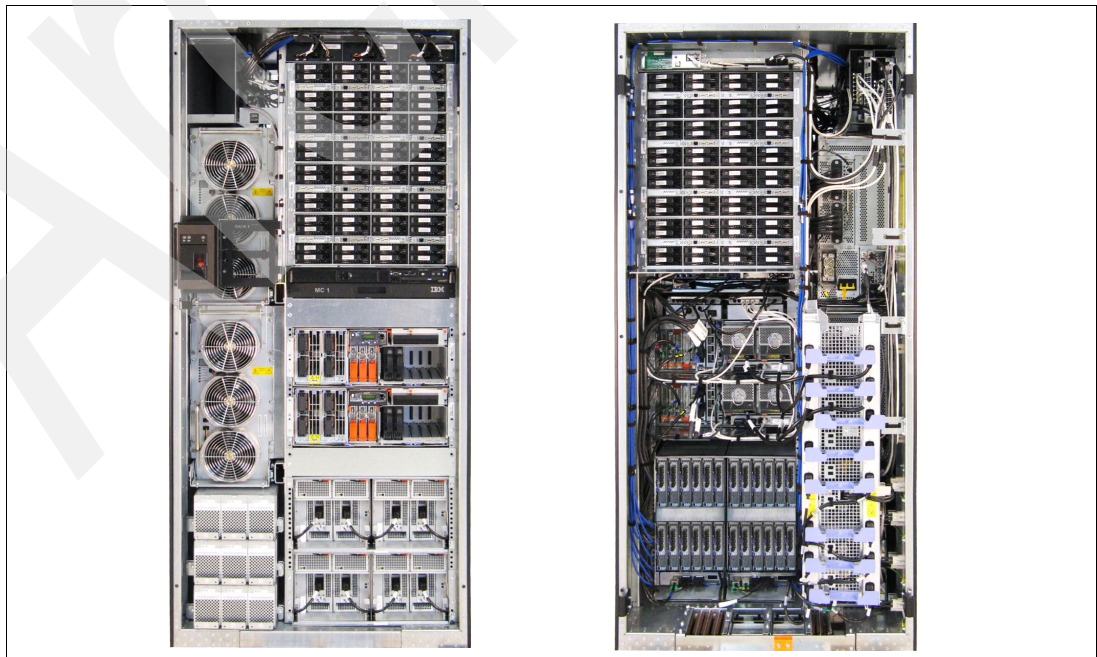

Figure 2-1 DS8700 base frame with covers removed: Front and rear
The DS8700 Model 941, shown in Figure 2-1, has the following features:
- ▶ The DS8700 Model 941 can connect up to four expansion frames (Model 94E/92E). Figure 2-1 displays a front view of a DS8700 Model 941 and 94E with the covers off.